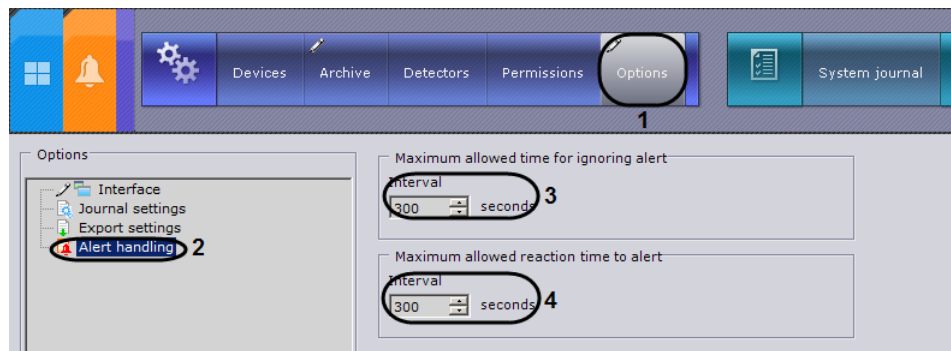

Fig. 6.9—1 Configuration of alert handling
1. Go to **System settings**⇒**Options**⇒**Alert handling** (Fig. 6.9—1, 1-2).
2. In the **Maximum allowed time for ignoring alert** group, enter the time in seconds during which it is necessary to accept the alert for handling before it is assigned **Missed** status (see Fig. 6.9—1, 3).
3. In the **Maximum allowed reaction time to alert** field, enter the time in seconds during which an operator who accepted an alert for handling and exited alert mode without evaluating it must return to alert mode (see Fig. 6.9—1, 4).